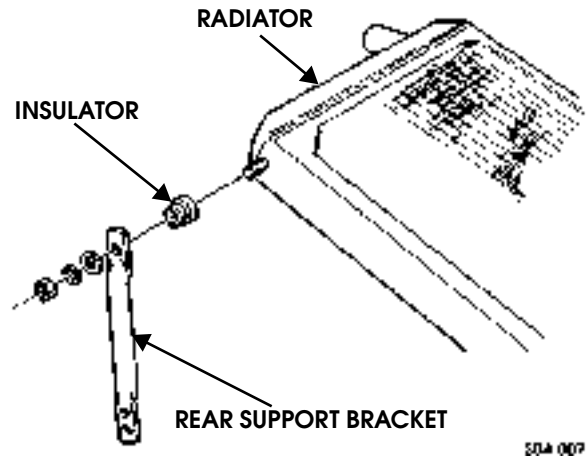

Figure 4-10: Insulator and Rear Support Bracket Location
3. Remove radiator rear support bracket and insulator from radiator (Figure 4-10).
2. Secure insulator and support bracket to radiator with washers and locknut (Figure 4-10).